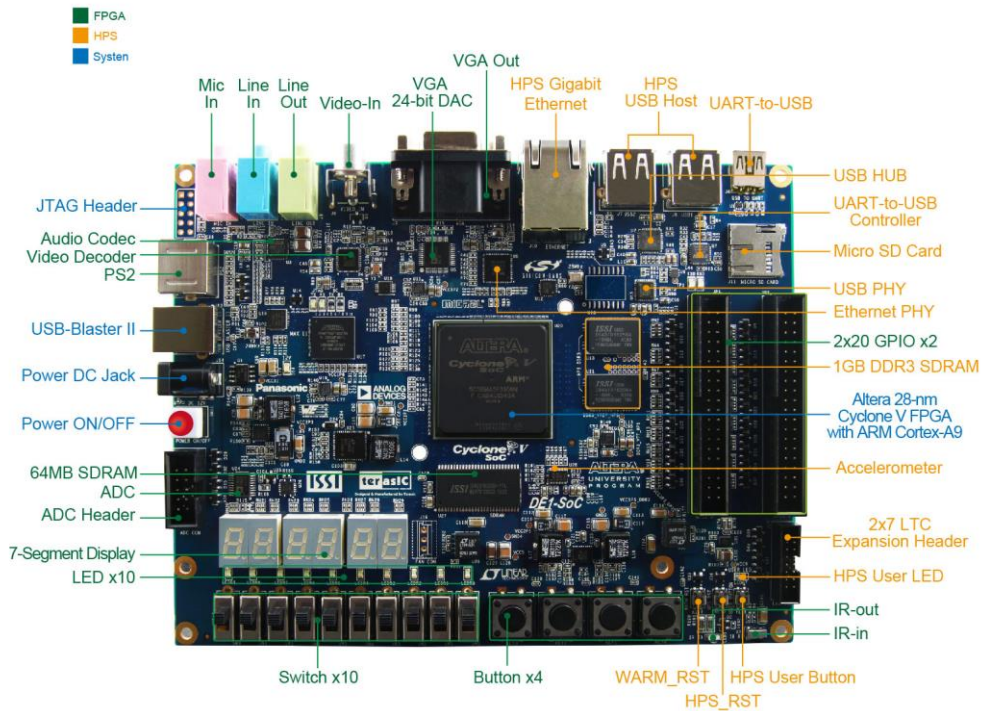

Figure 2-1 DE1-SoC development board (top view)
**Figure 2-1** shows a photograph of the board. It depicts the layout of the board and indicates the location of the connectors and key components.